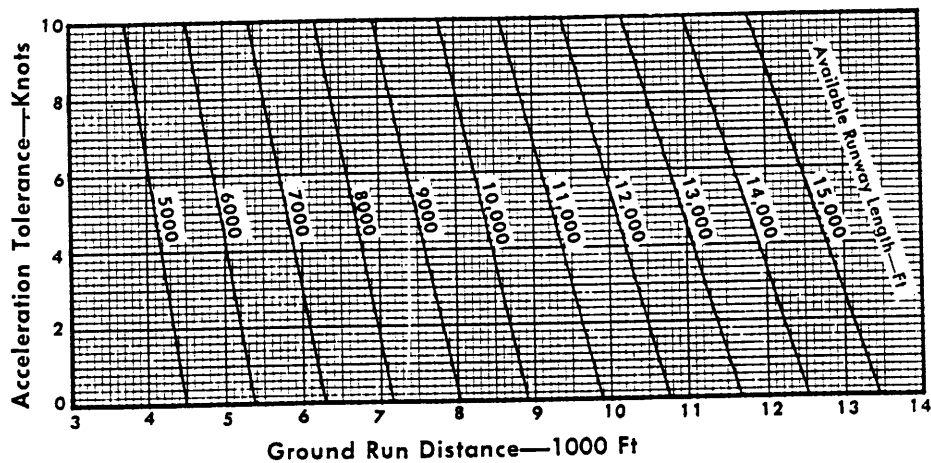

Figure A2-7
- j. From Figure A2-7, the allowable speed tolerance is 10 knots IAS. The zero wind go, no-go speed is 185 knots - 10 knots, or 175 knots IAS.